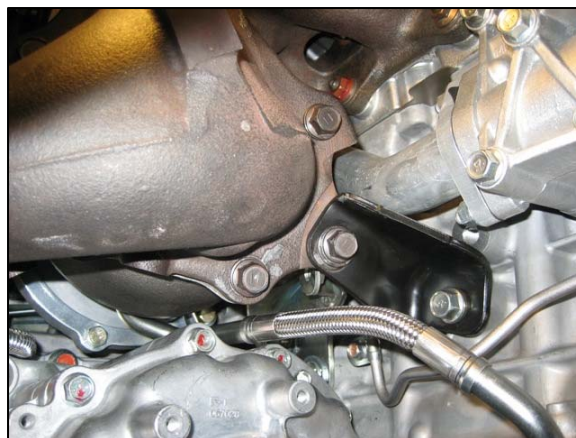

Fig. 42
44. Place the downpipe gasket onto the downpipe and install onto turbine housing using OE fasteners. Apply anti-seize compound to fastener threads to protect against corrosion. Ensure the nut is installed with its washer under the head. Torque all 5 fasteners to 25-51 lb-ft (59-69 N-m) (4 bolts, 1 nut, 14mm wrench). Two of the downpipe bolts can be seen in *Fig. 42*.
45. Install the downpipe support bracket. Ensure that both bolt holes are aligned and that the bracket is in close contact with engine block and downpipe before tightening. Torque the bolt to the engine block to 33-43 lb-ft (44-58 N-m). Torque the bolt into downpipe to 45-51 lb-ft (59-69 N-m) (2 bolts, 14mm wrench). See *Fig. 42*.